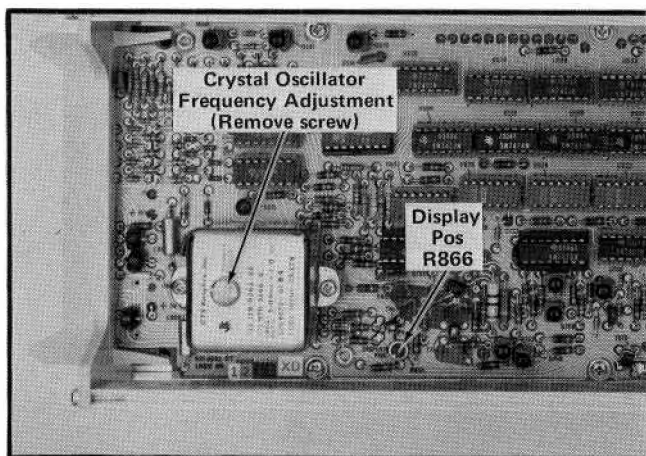

Fig. 5-4. Location of Measurement Interval and Output Signal Adjustments (on left side of instrument).
The location of the Measurement Interval adjustment is shown in Fig. 5-4.
- c. Note the Frequency at 27°C notation on the crystal oscillator cover (see Fig. 5-4).
The location of the Output Signal adjustment is shown in Fig. 5-4.